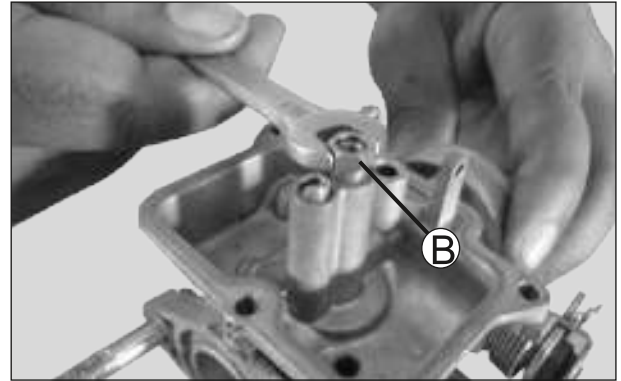

Fig. 4.25
- Loosen and remove the jet holder (B) and carefully push out the needle jet from bottom of the hole. (Fig. 4.25)